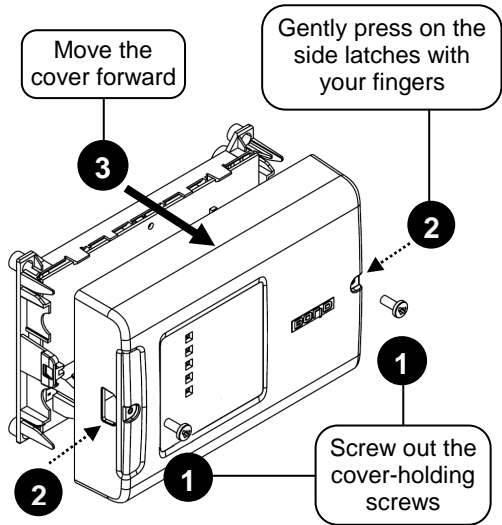

Figure 2. Removing the Controller Cover
3.1.5 Remove the Controller cover as shown on Fig. 2.
3.1.9 Remove the Controller cover as shown on Figure 2.
3.2.2 Remove the Controller cover as shown in Figure 2.